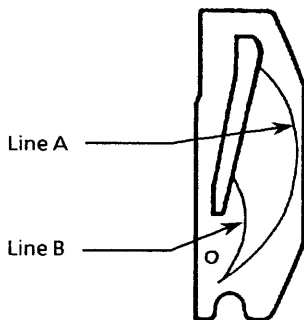

Fig. 12-9-2 Pail Tail Leading
- (3) Fig. 12-9-2
- (4) Fig. 12-9-2